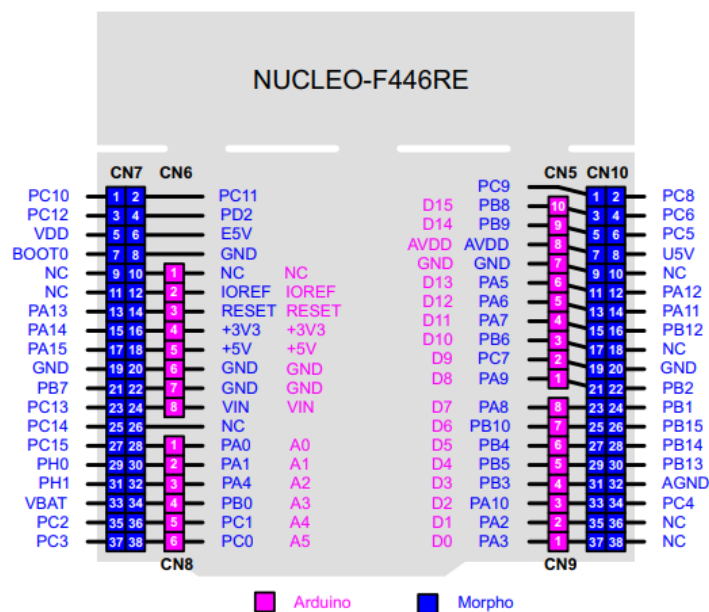

Figure 2: Nucleo 64 (F446RE) Board Pin Out
1. Connect the STM32 Nucleo-64 board with all components listed in Table 1, based on the circuit designed during the pre-lab session. Refer Figure 2 for the board pins out connection. Present the completed circuit to the supervising lecturer for verification before uploading the program.